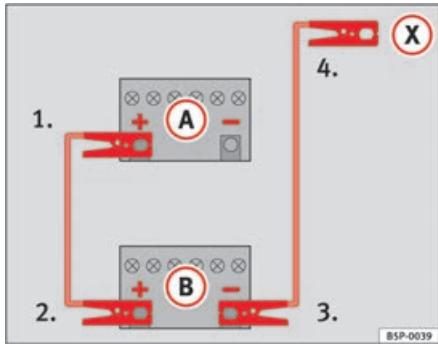

Fig. 171 How to connect the jump leads
In ⇒ fig. 171, the flat battery is **A** and the charged battery **B**.
- 1. Connect one end of the red jump lead to the positive ⇒ fig. 171 **+** terminal of the vehicle with the flat battery ⇒ **⚠**.